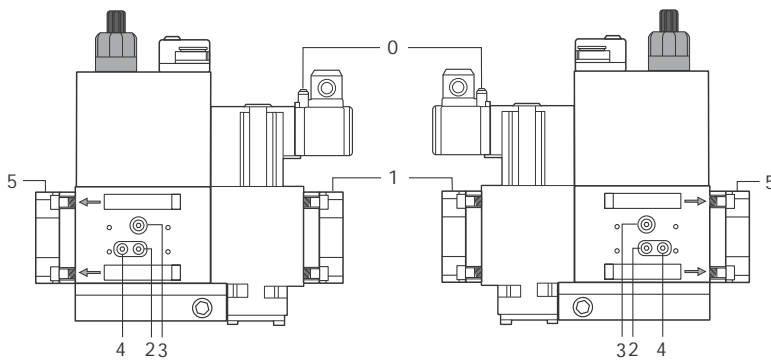
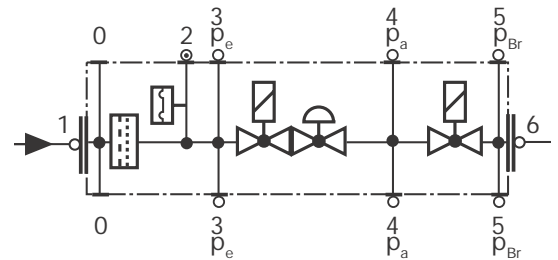

Fig. 37
Fig. 38
- Change the filter if the pressure difference between pressure connection 1 and 2 (Fig. 37-Fig. 38) $Dp > 10$ mbar.
- Change the filter if the pressure difference between pressure connection 1 and 2 (Fig. 37-Fig. 38) is twice as high compared to the last check.